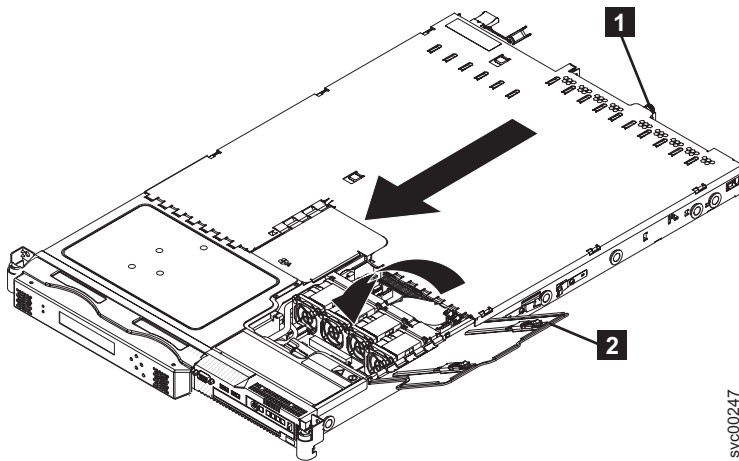

Figure 71. SAN Volume Controller 2145-8G4 with the fan door open
3. Tighten the thumbscrew **1**, which is shown in Figure 71 on page 84, until the cover correctly engages all the inset tabs on the SAN Volume Controller 2145-8G4.